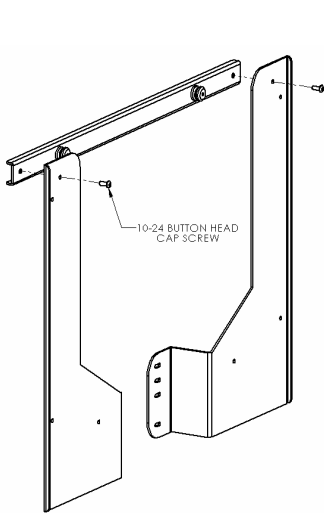

Figure 3
2. Using two 10-24 button head cap screws, attach top bracket to side brackets (see Figure 3).